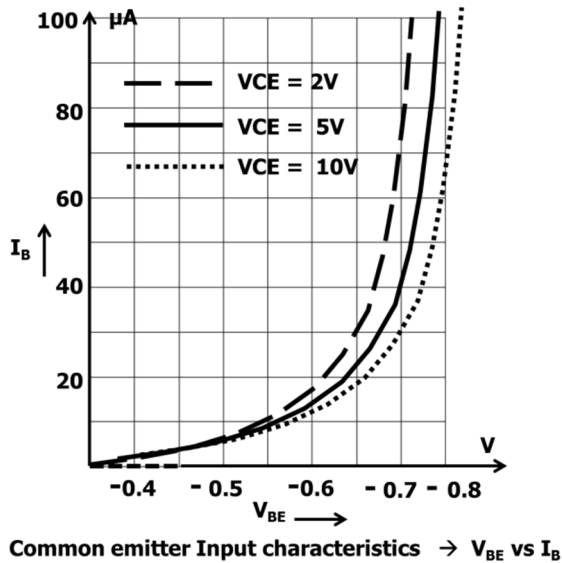

Fig 3.18
- Input characteristics (fig 3.18) is a plot of input voltage ( $V_{BE}$ ) in X axis and Input current ( $I_B$ ) in Y axis, for various constant values of collector-emitter voltages. It is also similar to a forward-biased diode characteristic